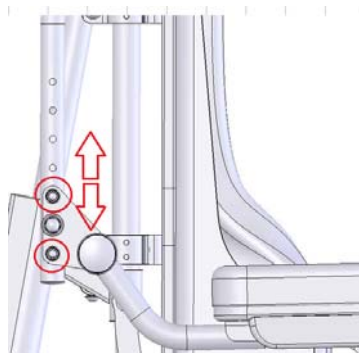

Figure 5-67
5.3.4.2.16 Use the #4 Allen Key Wrench and the #10 box end Wrench to remove the screws. Adjust the armrest height and re-tighten the screws. (Figure 5-67)